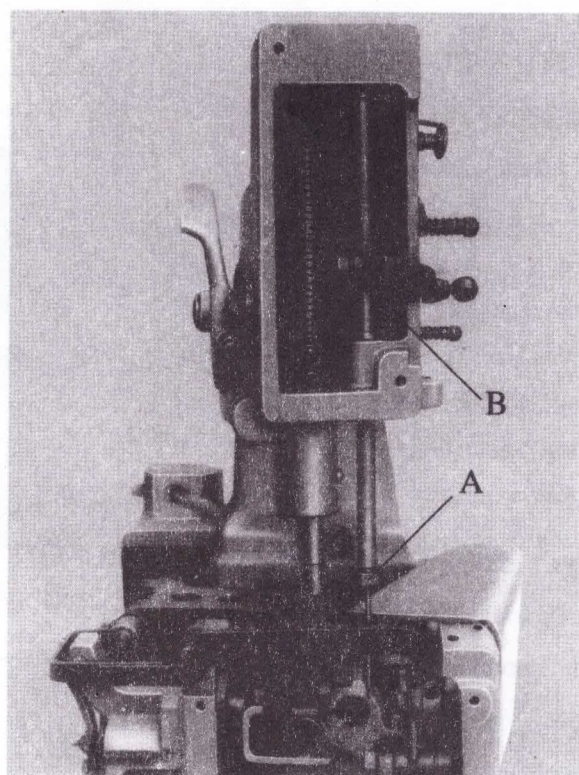

图 3
机针是易损零件，当针眼明显磨损，针尖磨钝或弯曲时，应更换新针。换针时，旋转皮带轮使针杆上升到最高点，用扳手拧松螺母(图3, A)换上新针，针柄必须插入针杆孔到底，针眼的凹形面须朝缝料前进方向，再固紧螺母。
The needle is vulnerable part. When the needle eye wears out obviously, needle point wears dull or bend, replace the needle. When replacing the needle, turn the pulley until the bar reaches its highest point. Loosen the needle set screw (A. Fig.3), and insert a new needle with the shank as far as possible into the needle bar. The needle groove must point to the sewing material direction. Then retighten the needle set screw.
卸下针板，将皮带轮按工作方向转动，使弯针运行至左边，当弯针尖超出机针直径1~1.5mm (0.040至0.060英寸) 时，机针的针眼上缘须和弯针的底边齐平 (图7所示)。调整针杆高度时，拧松针杆连轴节螺钉 (图3,B)，上下移动针杆至合适位置后再拧紧螺钉 (B)，并重新装上针板。
Remove the needle plate. Rotate the machine pulley in operating direction until the looper moving to the left. When the looper point projects 1-1.5mm (0.040 to 0.060 in.) left of the needle, the lower edge of looper and upper edge of needle eye must be flush in this position (Fig.7). For adjusting, loosen clamp screw (B Fig.3) in the needlebar up or down as required. Retighten screw (B) and remount needle plate.